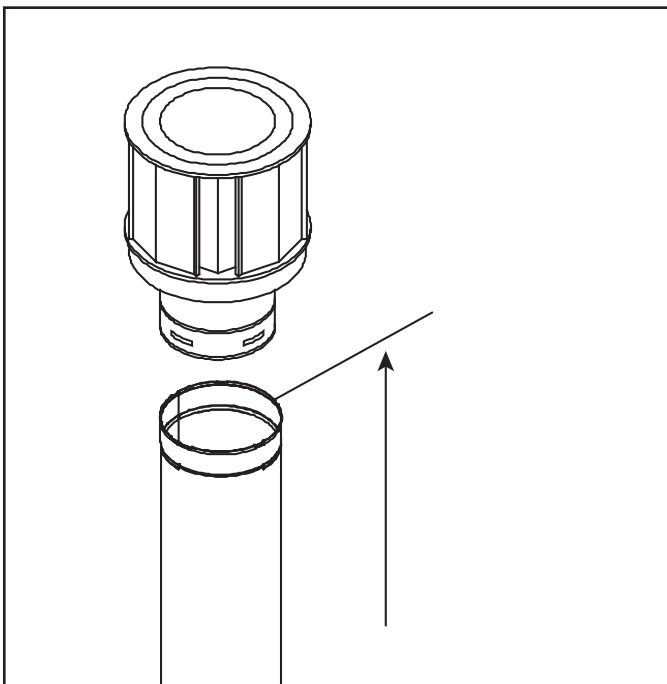

Figure 4.7. Measure to Top of Last Section of Pipe
- Vertical terminations are measured to top of last section of pipe. See Figure 4.7.
- HEIR36(NG/PROPANE), HEIR42(NG/PROPANE) and HEIR50(NG/PROPANE) models require a minimum of 36 inches of vertical venting before attaching any elbow to the appliance for the venting configuration in Figure 4.7.